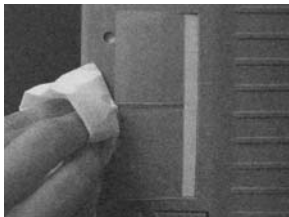

Figure 2
1. Using a slightly damp tissue clean any paper dust or ink spray on the back chassis (Fig. 2, pg.22).